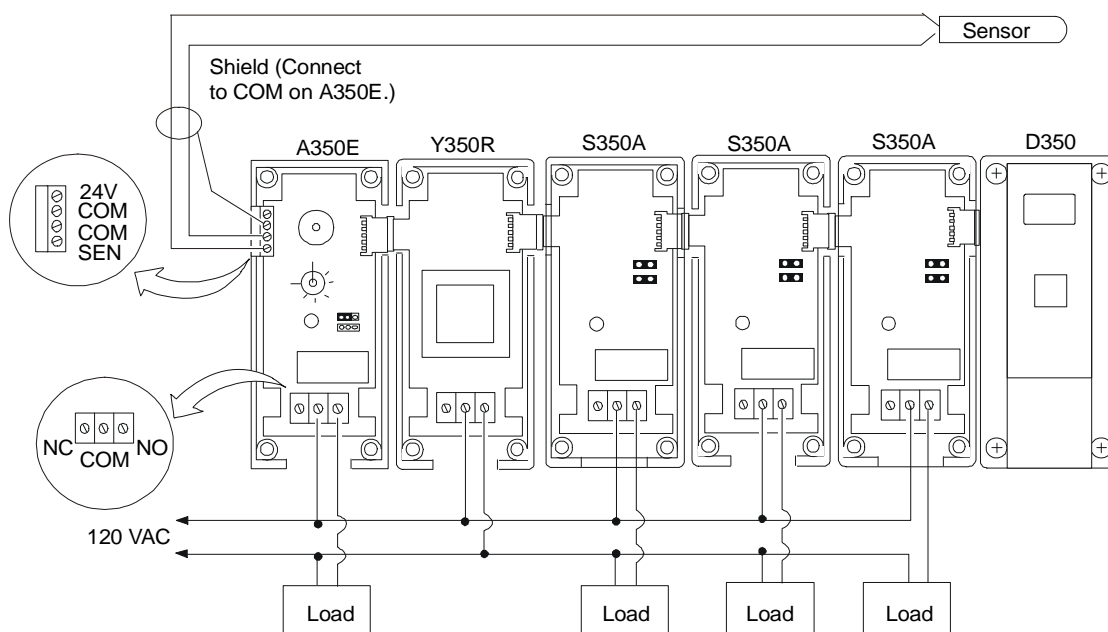

Figure 6: Typical Wiring Diagram for an A350E Powered by a Y350R Power Module
- A variety of A99B Series Temperature Sensors and mounting hardware are available for use with the A350E. Connect the sensor to the SEN terminal and one of the COM terminals on the four position terminal strip located at the top left of the printed circuit board, as shown in Figure 6. The sensor is not polarity sensitive.